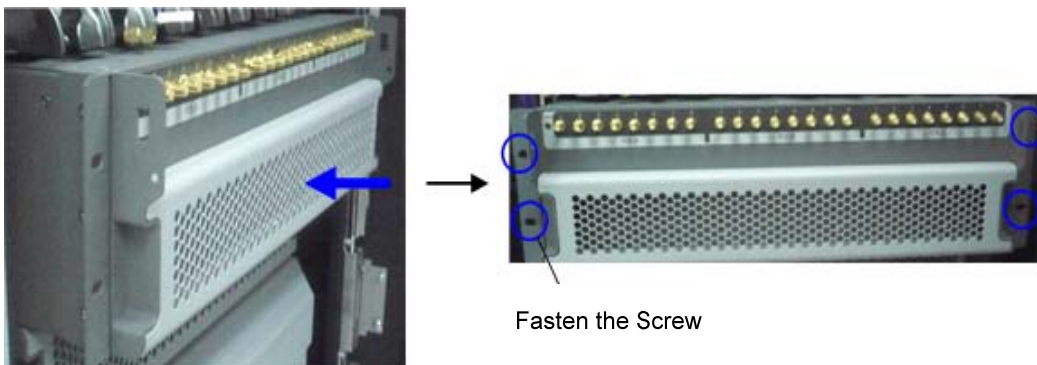

Figure 3-14 Installing the Divider Unit
**Step 5** Install the DIU as shown in Figure 3-14.